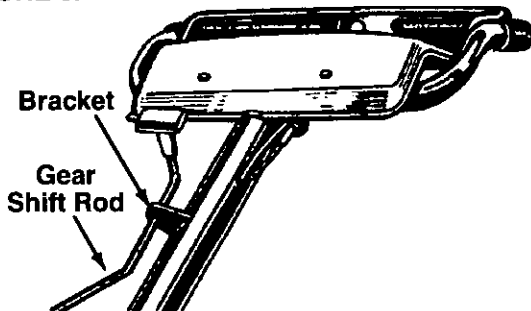

FIGURE 4.
1. Remove the hairpin clip, flat washer and rubber washer from the end of the gear shift rod. Slide the rod up through the bracket on the front of the handle assembly. Reinstall the T-handle. See figure 4.